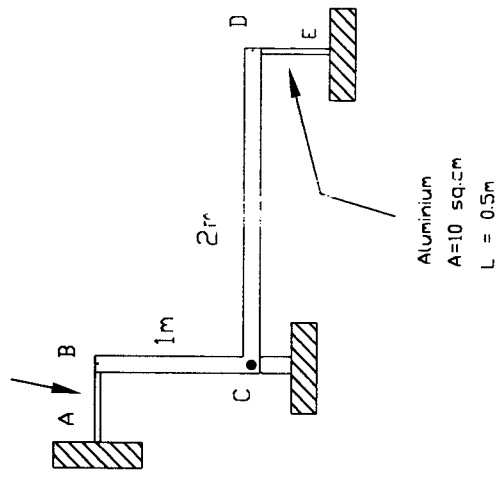

Fig 6
6. In the structure shown (*Fig 6*) the L-shaped rigid member BCD is supported by Steel rod AB and Aluminum member DE, and pinned at point C. Member DE has a cross sectional area of 10 cm^2 and member AB has a cross sectional area of 5 cm^2 . The structure is initially unstressed and then experiences a temperature decrease of 60 degrees Fahrenheit.